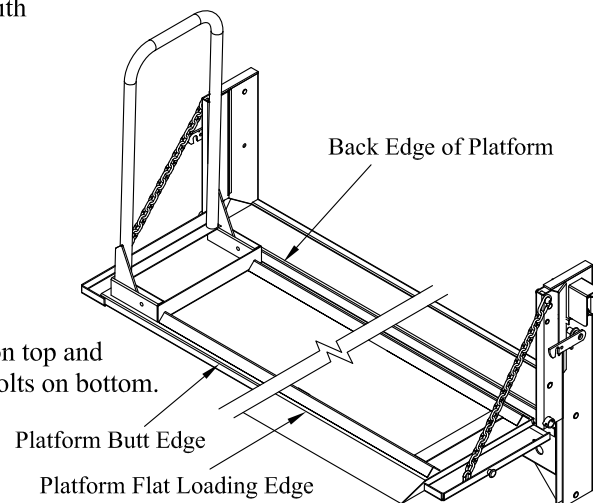

Figure 4: Tire rack on liftgate (Driver side tire rack shown).
2. **Position** the tire rack on the platform, centered from side to side (Figure 4).
3. **Position** the tire rack as follows (Figure 4).